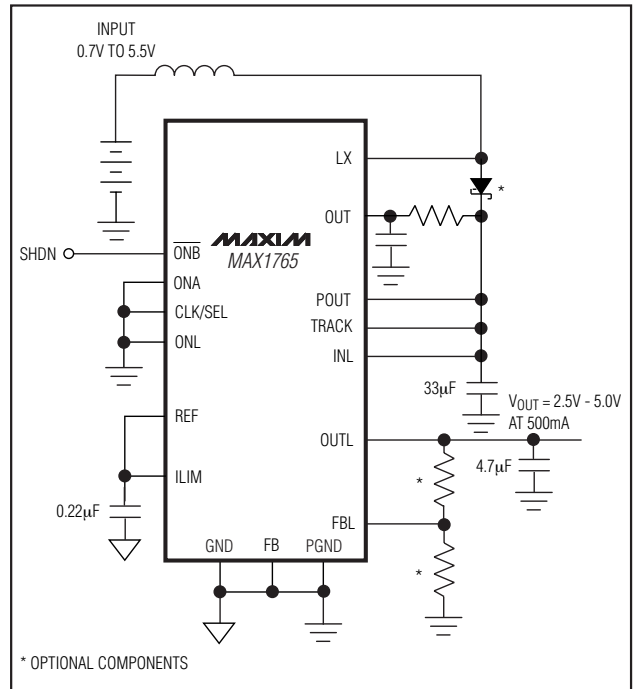

Figure 3. Simple Step-Up/Step-Down Converter
Asserting the TRACK input places the MAX1765 into track mode, where the DC-DC switching regulator's feedback pin (FB) is ignored, and the boost output (POUT) "tracks" to 500mV above the linear regulator output. The primary use of the MAX1765 in TRACK mode is as a simple or very-low-noise step-up/down power supply (see Figures 3 and 4; also see the *Typical Operating Characteristics*.)